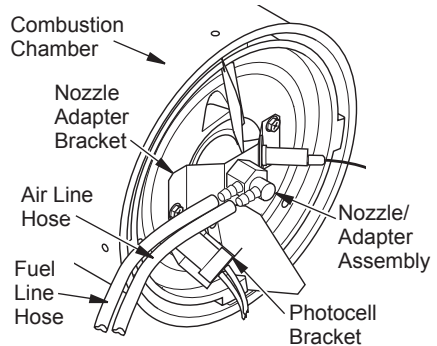
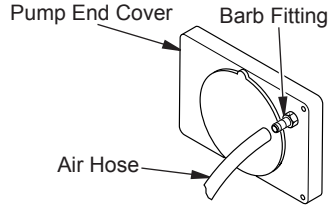

Figure 15 - Removing Air and Fuel Line
Figure 18 - Air Hose to Barb Fitting
3. Remove fuel and air line hoses from nozzle assembly (see Figure 15).
4. Inspect fuel and air line hoses for cracks and/or holes. If fuel line hose is damaged, disconnect from nozzle adapter (see Figure 15, page 12) and from fuel filter (see Fuel Filter, page 11). If air line hose is damaged, disconnect from nozzle adapter (see Figure 15, page 12) and from barb fitting on pump end cover (see Figure 18).
5. Install new air and/or fuel line. Attach one end of air line hose to barb fitting on pump end cover (see Figure 18) and the other end to nozzle adapter (see Figure 15, page 12). Attach one end of fuel line hose to fuel filter (see Fuel Filter, page 11) and the other end to nozzle adapter (see Figure 15, page 12).
Note: Route hoses as shown in see Figure 15, page 12, according to model. Hoses are not to touch photocell bracket.